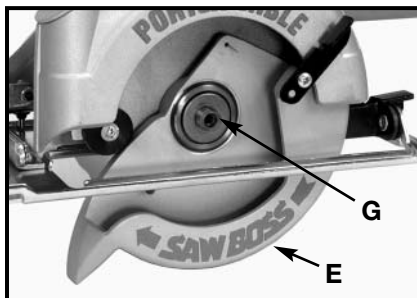
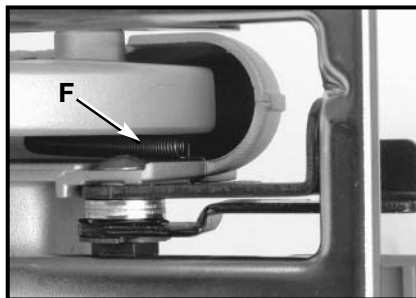

Fig. 7
Fig. 8
The telescoping guard (E) Fig. 7 is an important safety device. Each time you use the saw, see that the telescoping guard rotates freely and returns quickly and completely to its closed position. Frequently check the retracting spring (F) Fig. 8 to see that it is functional and free of debris. At least once a month, remove any accumulated sawdust, pitch, or other debris from the area around the hub (G) Fig. 7 of the telescoping guard, and add a few drops of light machine oil at each end of the hub. **NEVER** block or wedge the telescoping guard in the open position.